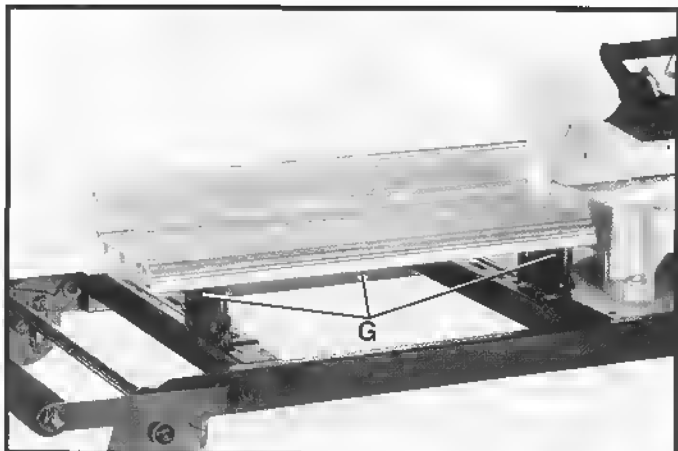
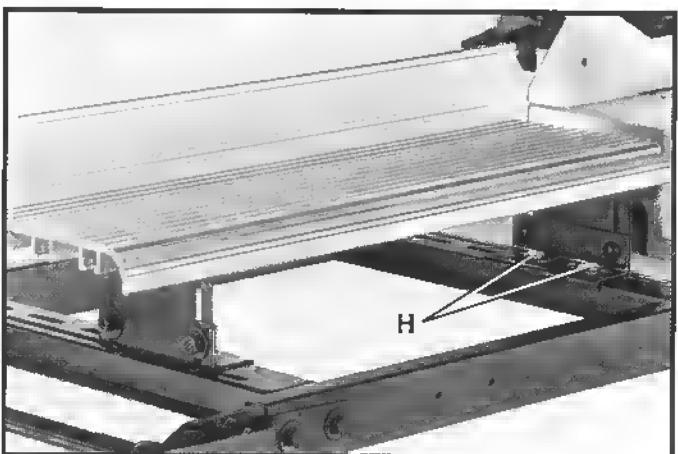

Fig. 23
Fig. 24
3. Place the table extension assembly (G) onto the two tracks of the saw stand, as shown in Fig. 23. Use four carriage bolts, two of which are shown at (H) Fig. 24, flat washers, lockwashers and nuts and lightly fasten the mounting brackets to the saw stand. **NOTE:** A 10mm socket with a 3/8" drive is supplied to aid in making the necessary adjustments where it is necessary to loosen and tighten the metric hardware supplied with the saw stand.